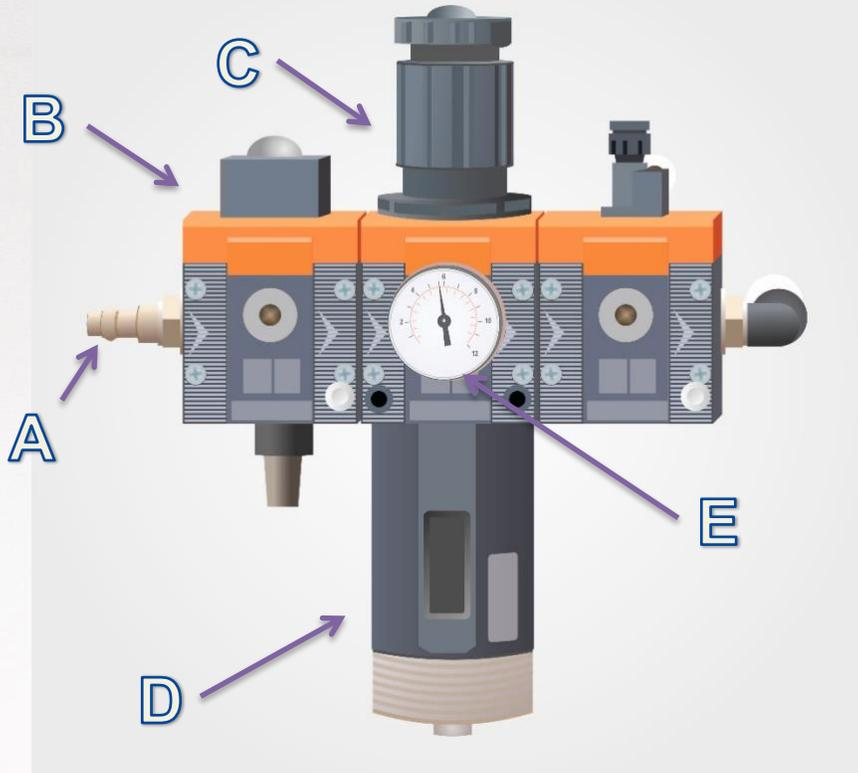

Fig.7. THE COMPRESSED AIR PREPARATION SYSTEM.
14. COMPRESSED AIR PREPARATION SYSTEM (Fig.7) – consists of: